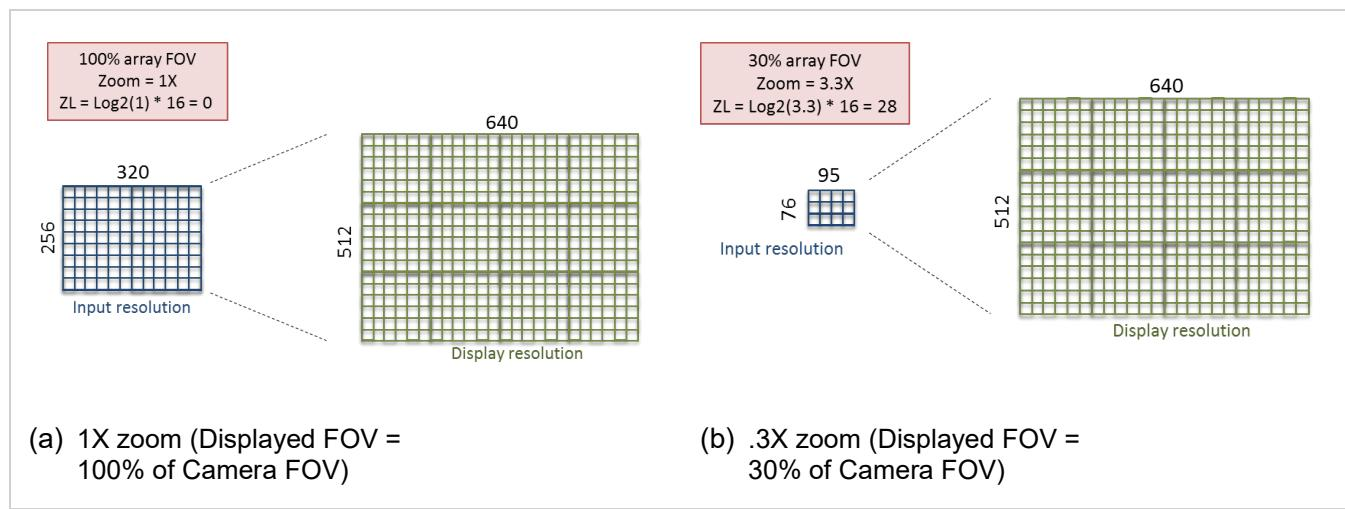
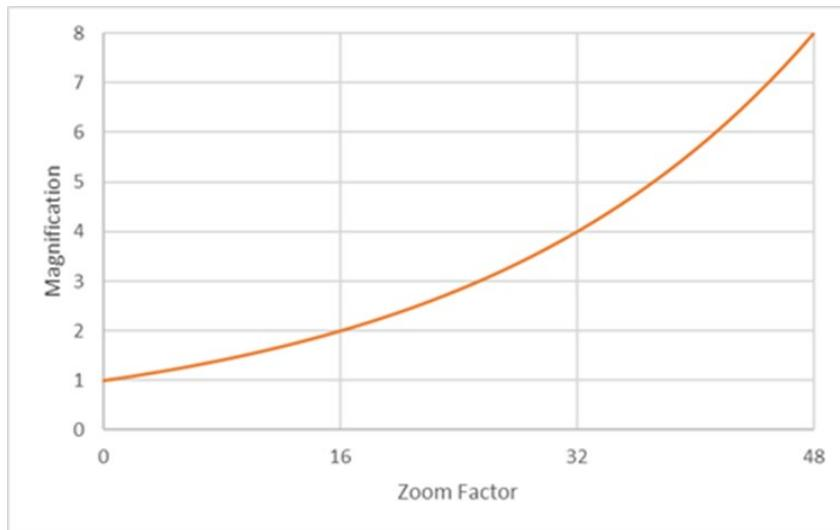

FIGURE 30: VISUALIZATION OF ZOOM FUNCTION
FIGURE 31: ZOOM (RELATIVE MAGNIFICATION) AS A FUNCTION OF SPECIFIED ZOOM LEVEL
Boson+ provides a digital zoom capability in which a zoom window (either the full sensor-array data or some cropped subset) is interpolated to the 640x512 resolution of the post-zoom output stream (Figure 30). For the 320 configuration, the maximum size of the zoom window is 320x256, which means the minimum interpolation factor is 2:1 (640x512 output from 320x256 input). Using the classical definition of digital zoom (sensor FOV divided by displayed FOV), the minimum zoom is 1X, and that is what is used here. The zoom function provides 49 discrete zoom levels (0 – 48). The transfer function between zoom and specified **Zoom Level** (ZL) is depicted graphically in Figure 31. Note that the maximum zoom is $2^3 = 8X$.